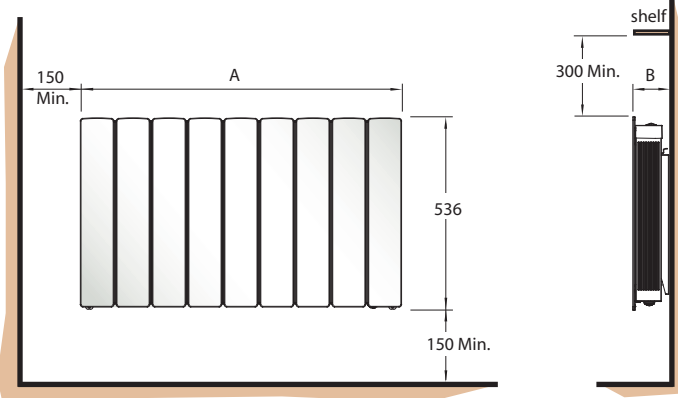

Fig. 1
The heater is designed for wall mounting on the wall bracket supplied. It should only be operated when in the upright position as shown - see Fig. 1.
**IMPORTANT** – The wall bracket supplied with the appliance must be used. The heater should be positioned observing the minimum clearances stated around the heater - see Fig. 1.